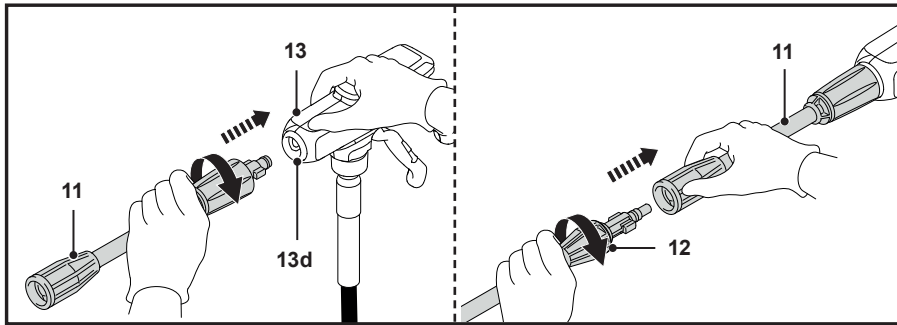

Fig. 4
1. Connect the upper lance (11) to the spray gun (13). Ensure that the tip of the upper lance (11) engaged into the slot at the gun connector (13d) (Fig. 4).
2. While pushing the upper lance (11) firmly into the gun connector (13d), turn the upper lance (11) in a clockwise direction by 90° to securely lock it in place (Fig. 4).
3. Turn the locking sleeve clockwise to secure the connection between the upper lance (11) and the spray gun (13) (Fig. 4).
4. Connect the lower lance (12) to the upper lance (11). Ensure that the tip of the lower lance (12) engaged into the slot on the upper lance (11) (Fig. 4).
5. While pushing the lower lance (12) firmly into the upper lance (11), turn the lower lance (12) in a clockwise direction by 90° to securely lock it in place (Fig. 4).